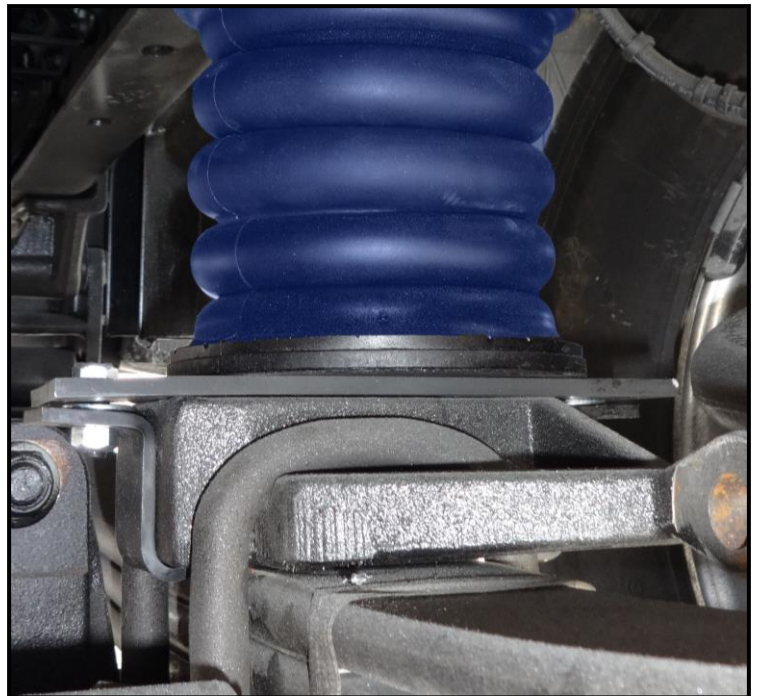

Figure 3.
- 8) Attach two J-bracket clamps (item D) to the lower bracket (item C) after hooking them under the shock mount/spring plate using the two 3/8-16 x 1.5" flange hex bolt (item H), two 5/16" washers (item E) and two 3/8" flange nuts (item I) as seen in figure 3.